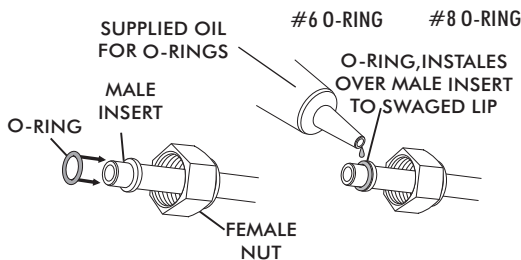
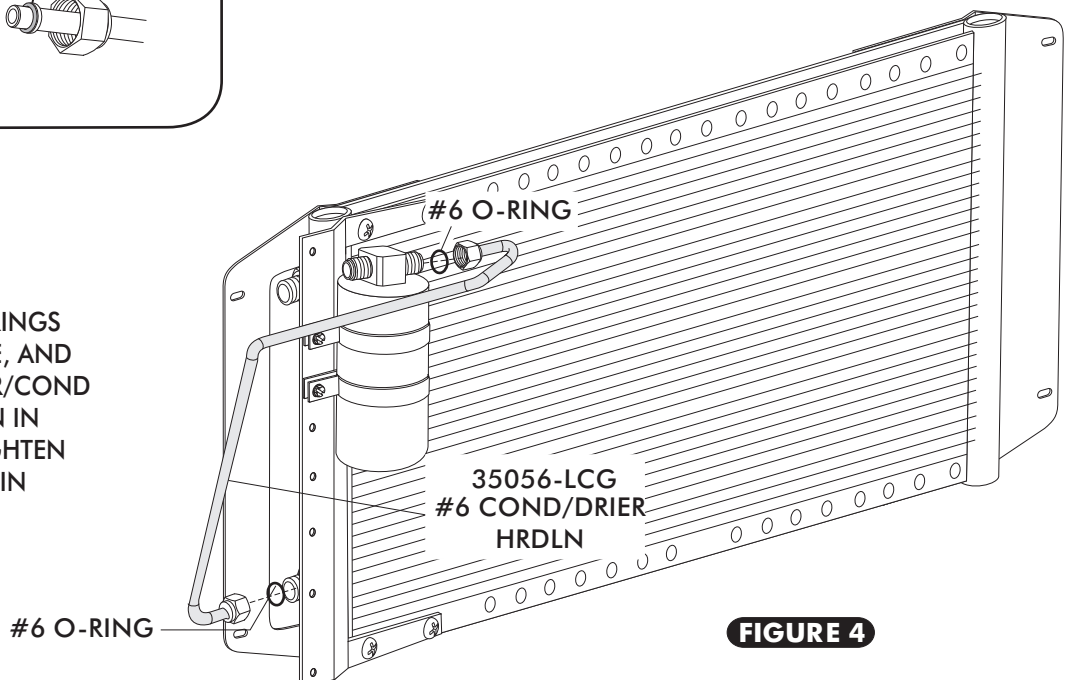
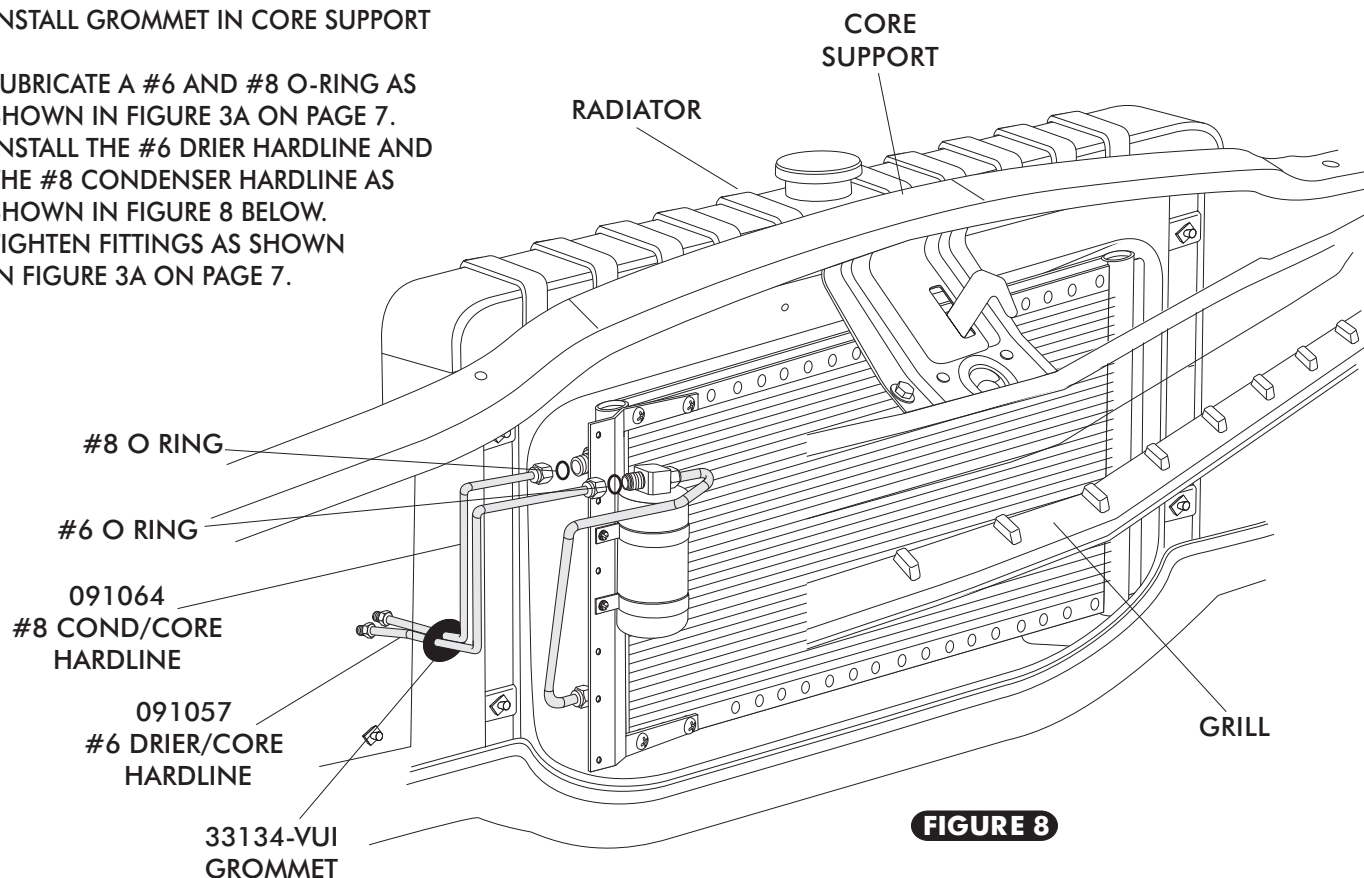

FIGURE 3A
FIGURE 4
FIGURE 8
- ☐ LUBRICATE (2) #6 O-RINGS SEE FIGURE 3a ABOVE, AND INSTALL THE #6 DRIER/COND HARDLINE AS SHOWN IN FIGURE 4 BELOW. TIGHTEN FITTINGS AS SHOWN IN FIGURE 3a ABOVE.
- ☐ LUBRICATE A #6 AND #8 O-RING AS SHOWN IN FIGURE 3A ON PAGE 7. INSTALL THE #6 DRIER HARDLINE AND THE #8 CONDENSER HARDLINE AS SHOWN IN FIGURE 8 BELOW. TIGHTEN FITTINGS AS SHOWN IN FIGURE 3A ON PAGE 7.